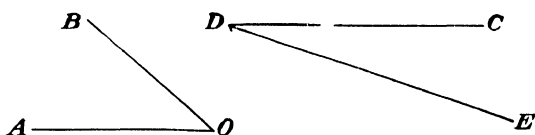

Fig. 117.
In your notebook draw two angles as shown in Fig. 117.
2. Divide  $\angle CDE$  in Fig. 117 into four equal parts. Check the results.